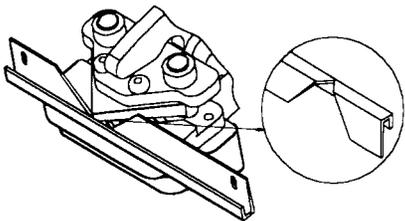

Figure 4
3. Place the top of cap on flat die shoe. From wall leg side, locate punch tip at mark on room leg and cut through top of cap. Bend at cut to make a perfect outside corner (see figures 4 and 5).